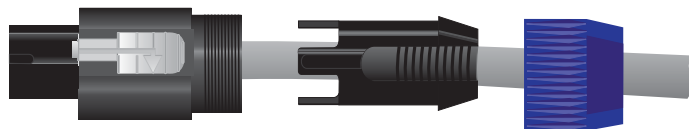

Figure 1.16
4. Slide the connector insert (B) into the connector housing (A), making sure that the large notch on the outer edge of the insert lines up with the large groove on the inside of the connector housing. The insert should slide easily through the housing and out the other side until it extends approximately 3/4-inch (19-mm) from the end of the housing, as shown in Figure 1.16.